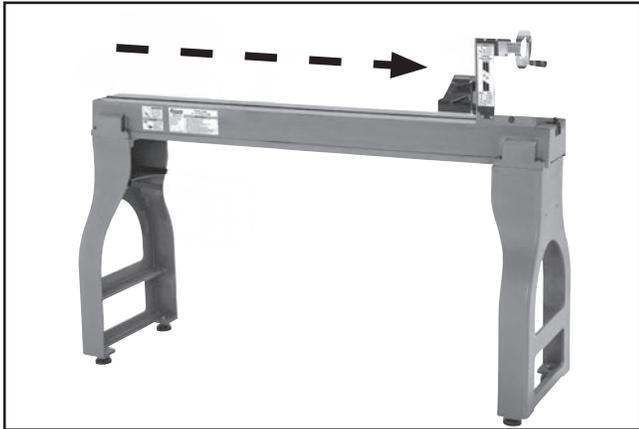

Figure 42. Example of lathe prepared for outboard turning.
3. Loosen headstock, then move it all the way to tail end of lathe bed, as shown in **Figure 42**.